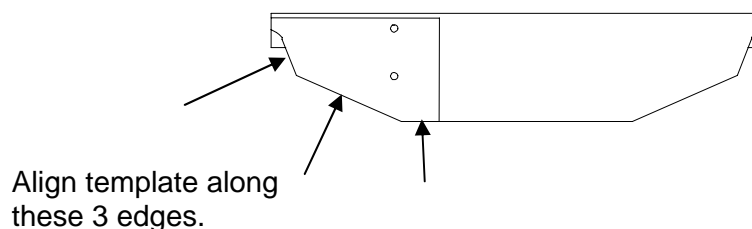

FIGURE 12
- 3.5.8 Locate the position of the mounting holes by aligning the template (P/N 103-5865) on the front face of the floor pan as shown in Figure 12. Clamp the template in place. Using a center punch, mark the positions of the holes on the floor pan. Flip the template over and repeat on the other end of the floor pan face.